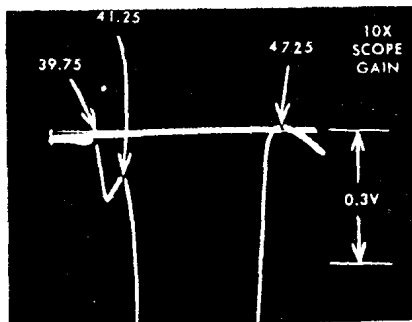

Fig. 6 Expanded View of Traps
6. Refer to Fig. 6 and 7 and adjust the 39.75 Mc 41.25 Mc, and the two 47.25 Mc traps for minimum marker amplitude. It can be seen that high oscilloscope gain must be used to "run" the response off the screen in order to view a "blow up" of the traps.